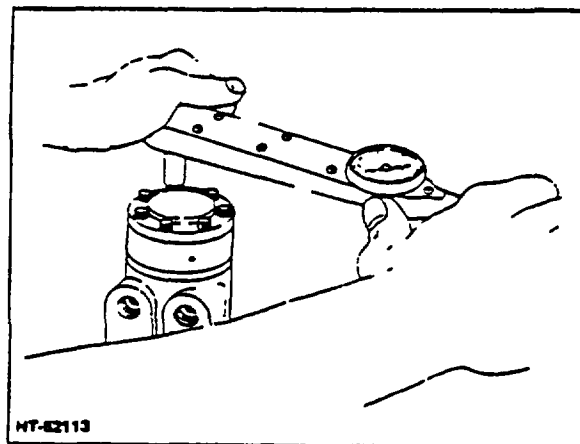

Figure 28. Tightening Capscrews
23. Install all 7 capscrews and torque them gradually and evenly to 150 lb-in (Fig. 28).